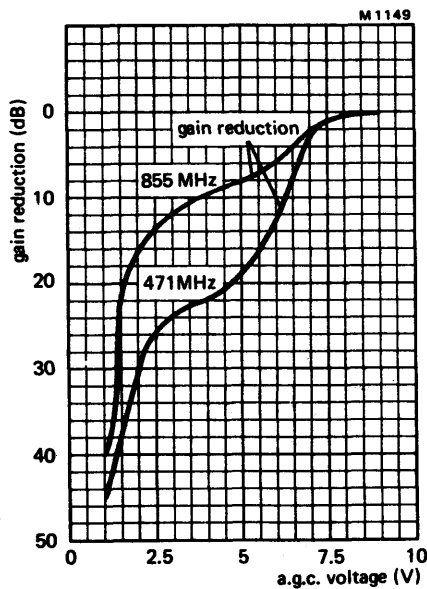

Fig.4
A.G.C. voltage (Fig.4)
A.G.C. current (Fig.4)